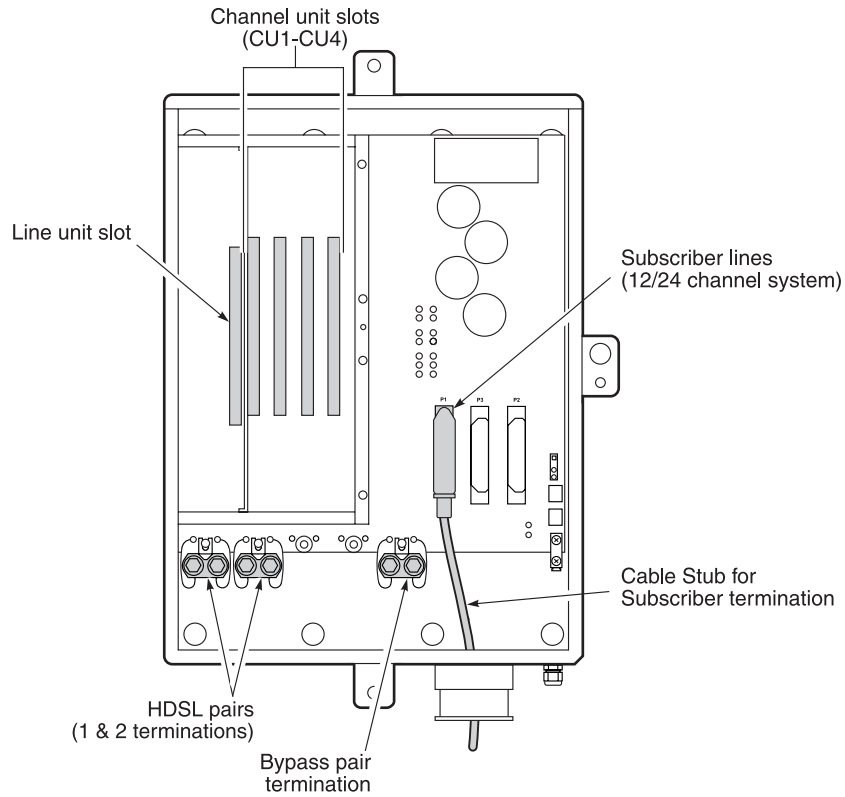

Figure 3. FRE-765 List 4B RT Enclosure (Interior View)
- List 4B—see Figure 3 on page 3